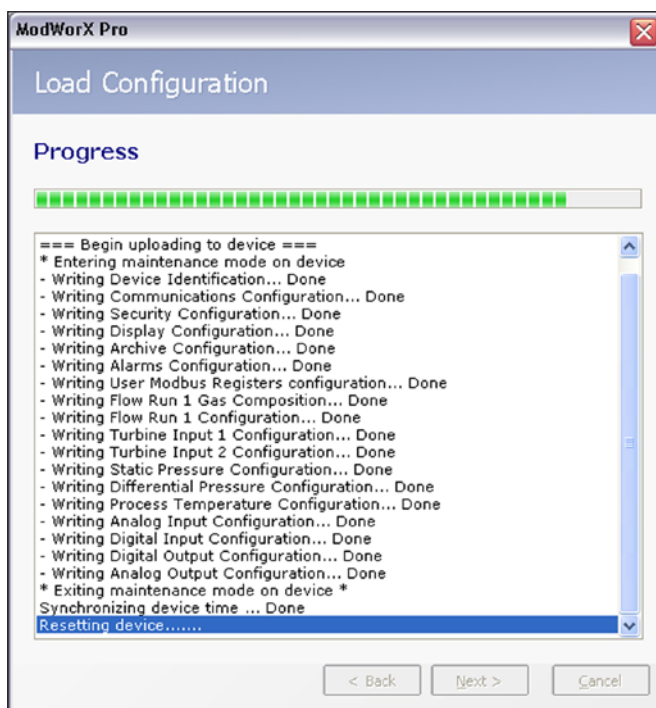

Figure A.6
8. Click *Next* to initiate the upload . A progress screen will be displayed throughout the upload (Figure A.6), followed by a confirmation screen when the upload has been successfully completed.